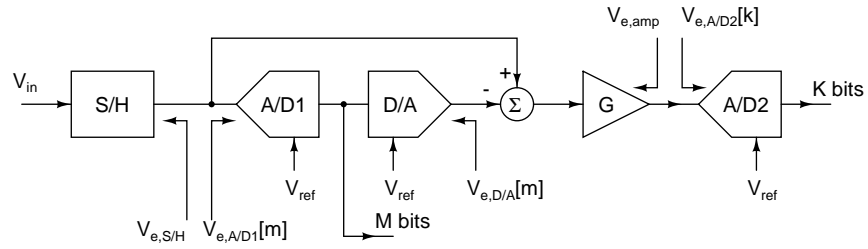

Figure 1:
- Fig. 1 shows a two step flash converter without error correction. The overall resolution is $N = M + K$ bits. The error in each block is shown as an analog voltage referred to either the input or the output. i.e. The m^{th} transition of A/D1 occurs at $mV_{LSB1} + V_{e,A/D1}[m]$ and the m^{th} output of D/A is $mV_{LSB1} + V_{e,D/A}[m]$. $0 \leq m \leq 2^M - 1$ and $0 \leq k \leq 2^K - 1$. $V_{LSB} = V_{ref}/2^N$ is the LSB voltage of the overall converter.